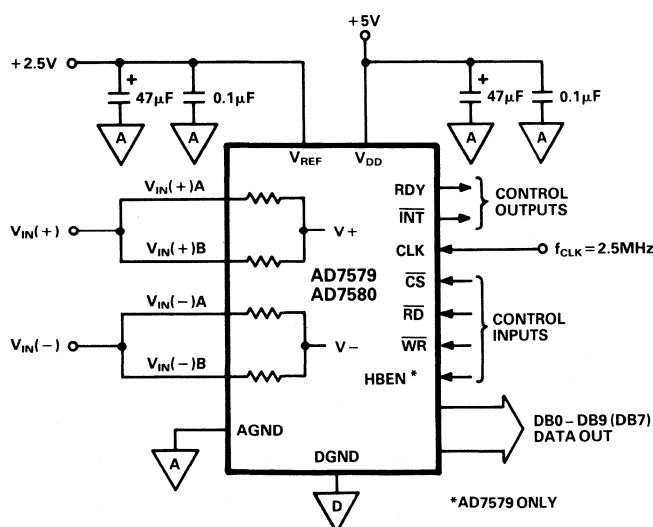
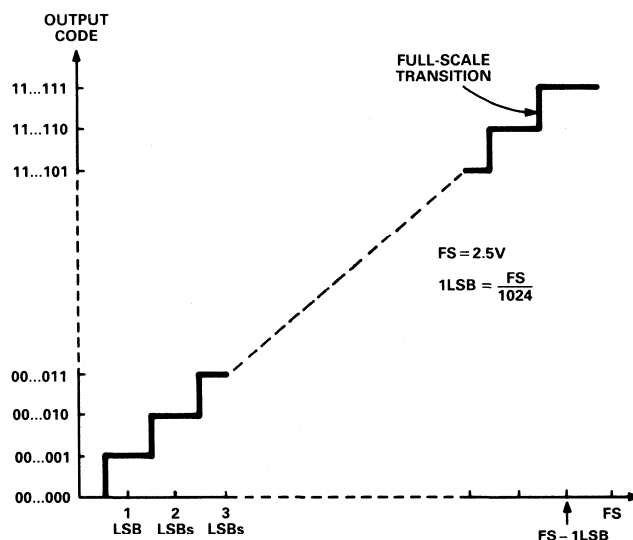

Figure 10. Unipolar 2.5 V Operational Diagram
Figure 11. Ideal Input/Output Transfer Characteristics
*DECOUPLING CIRCUITRY AND CONTROL CIRCUITRY AS IN FIGURE 10
Figure 10 shows the AD7579/AD7580 connected in the standard unipolar mode. Figure 11 and Table 2 show the ideal input/output transfer characteristics and the input/output code table, respectively. Code transitions occur between successive integer LSB values (i.e., 1/2 LSB, 3/2 LSBs, etc.). The output code is straight binary with 1 LSB = $FS/1024 = 2.5/1024 \text{ V} = 2.4 \text{ mV}$. The input voltage span is 2.5 V and the common mode range is 0 V to + 5 V, when $V_{DD} = 5 \text{ V}$. This means that the lowest voltage which can be tolerated at any of the analog inputs is 0 V, and the highest voltage which can be tolerated is + 5 V.
Table 2. Input/Output Code Table For Figure 10